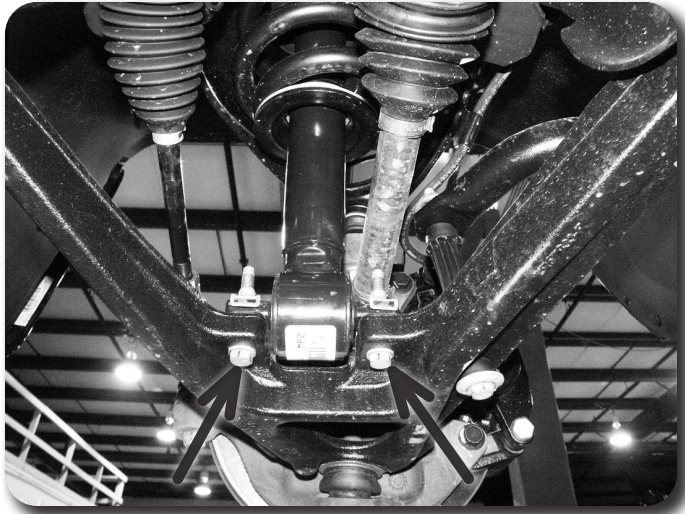

Figure 8
16. Support the lower control arm with a jack. Remove the lower strut mount bolts Figure 8. Save bolts.